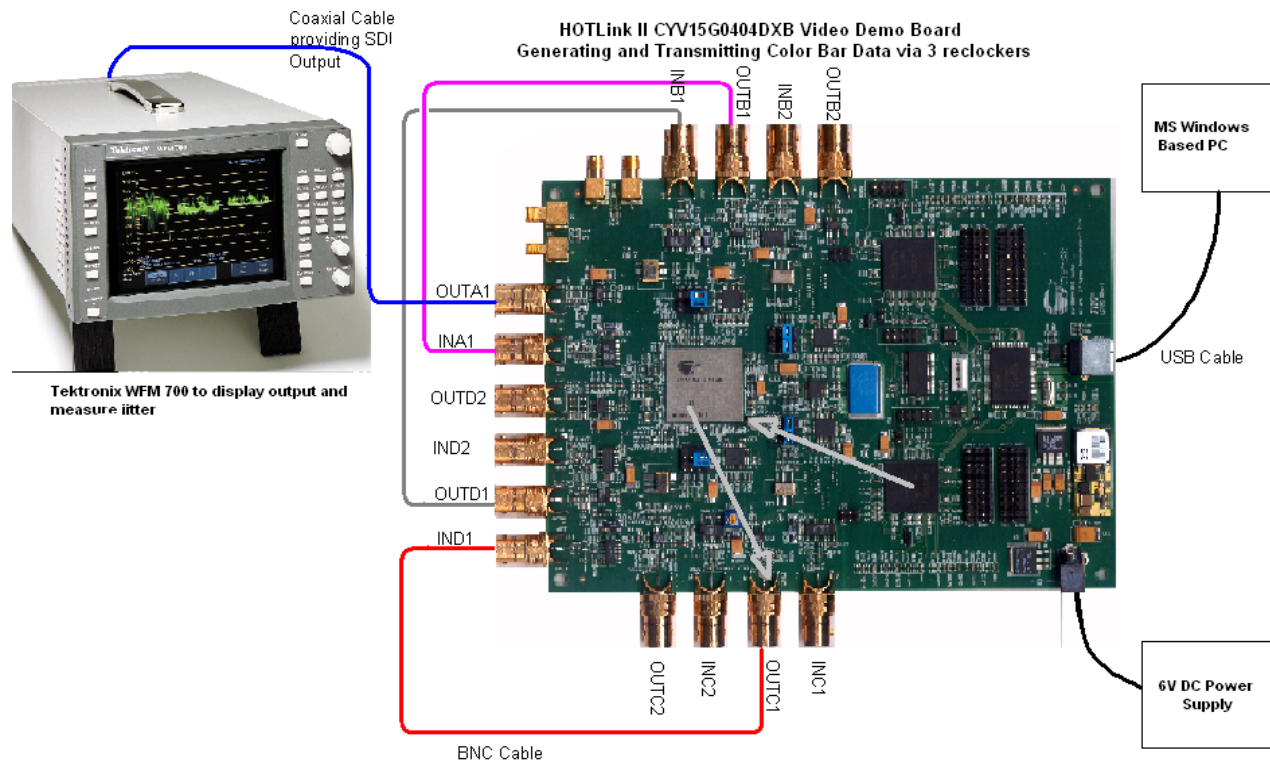
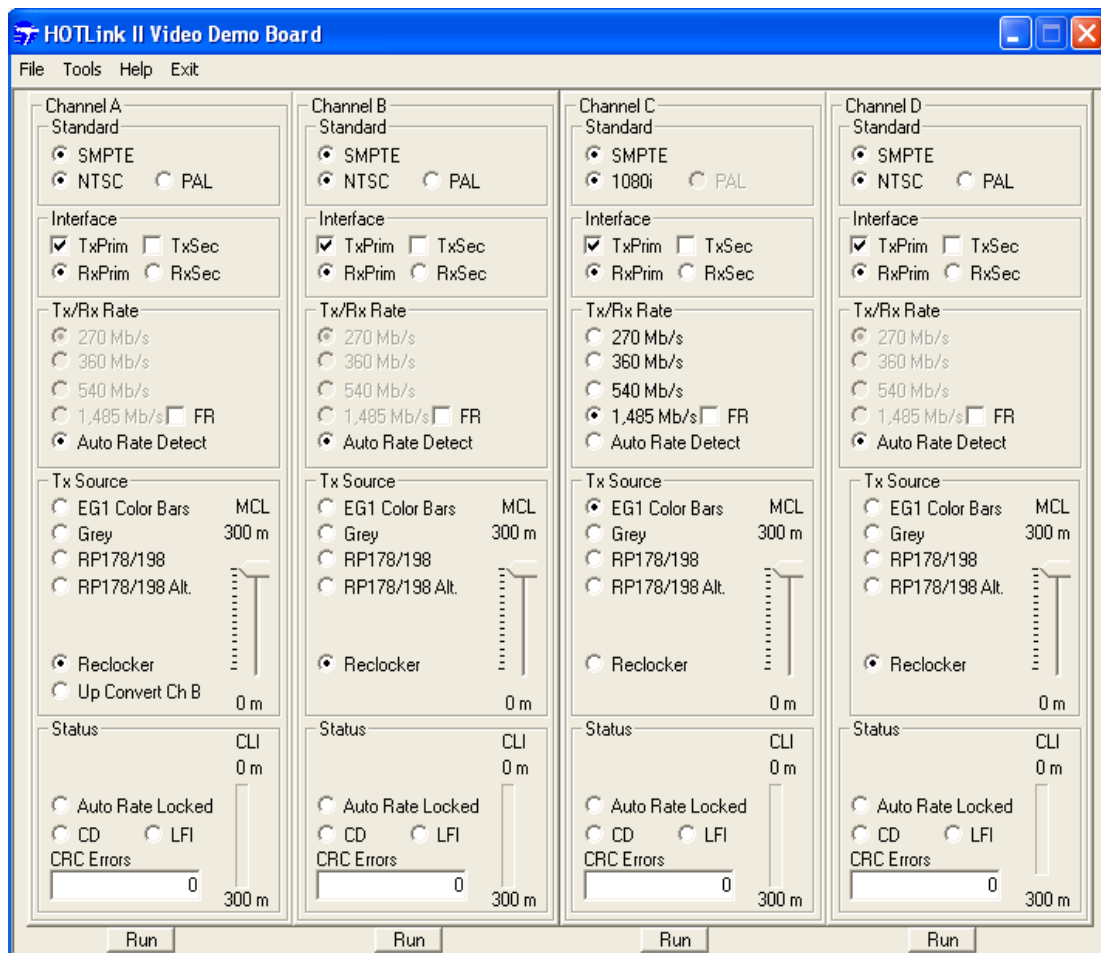

Figure 6-5. Sample Test 2—Transmits Color Bar Data Via Three Reclockers
Figure 6-6. GUI Setting for Sample Test 2
5. Select appropriate buttons on the GUI according to *Figure 6-6*. Please note that there are two methods for setting the data rate on the reclocker channels. One method is to select "Auto Rate Detect", which will reconfigure the programmable clocks to the incoming data rate. The other method is to set the data rate for all reclocked channels to be the same as the data rate of the transmitting channel. In the set up shown in *Figure 6-5* and *Figure 6-6*, the transmitting data rate is 1485 Mb/s which is transmitting HD color bars. All reclocked channels are configured to automatically detect this data rate.